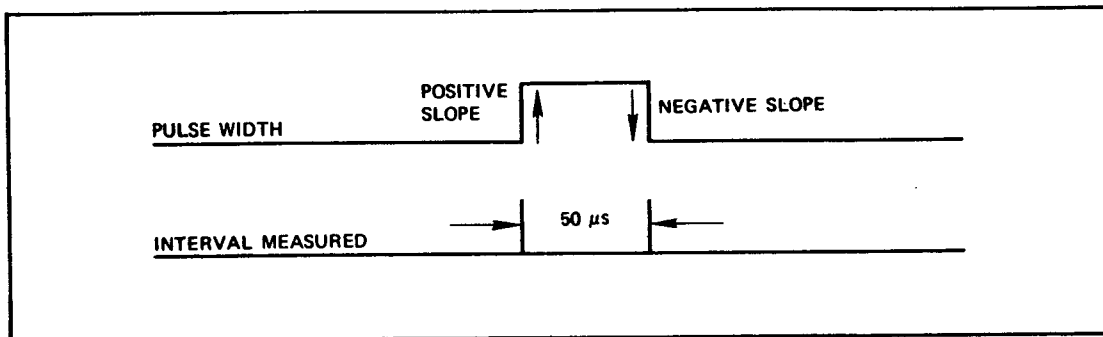

Figure 3-4. SLOPE Switch Settings
**SLOPE SWITCH.** The  $\pm$ SLOPE switch (provided for each channel) determines which slope of the input signal will trigger the counter. As a simple example (see Figure 3-4), if the pulse width of a positive pulse is to be measured the Channel "A" SLOPE switch would be set to "+" and the Channel "B" SLOPE switch would be set to "-". (For time interval measurements, Channel "A" always begins the measurement and Channel "B" ends the measurement.)